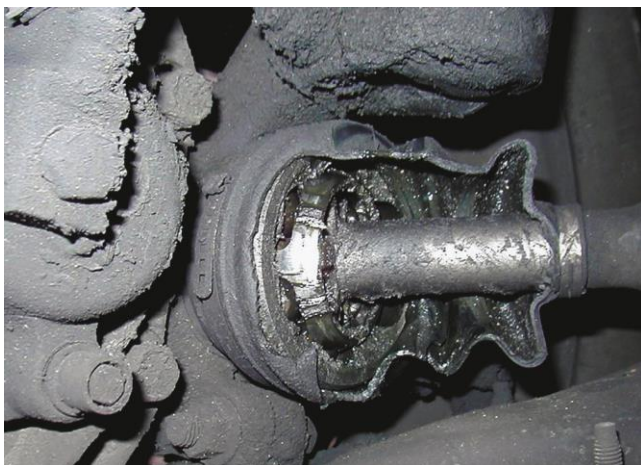

Figure 5. FWD outer CV joint damage.
Front-wheel-drive (FWD) vehicles use drive axles with constant velocity (CV) joints at the front wheels. The outer joints are attached to the front wheels. They are more likely to suffer from road hazards that often can cut through the protective outer flexible boot. The most common repair is to replace the complete drive axle. Figure 5.